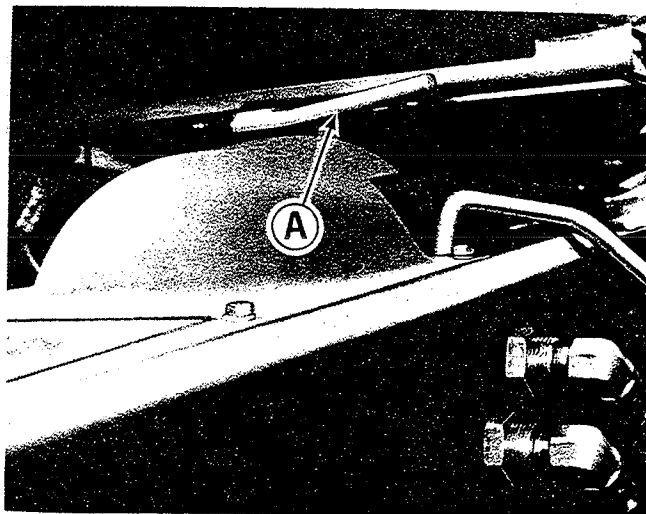

Figure 17. Seat adjustment.
See figure 17. Pull seat adjustment lever (A) under front seat out and reposition seat as required.